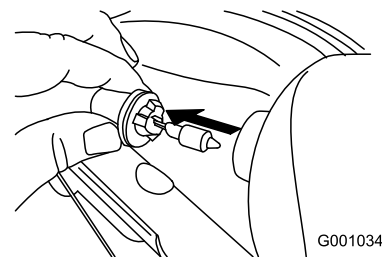

Figure 60
3. Remove the bulb straight out from the back of the headlight (Figure 60).